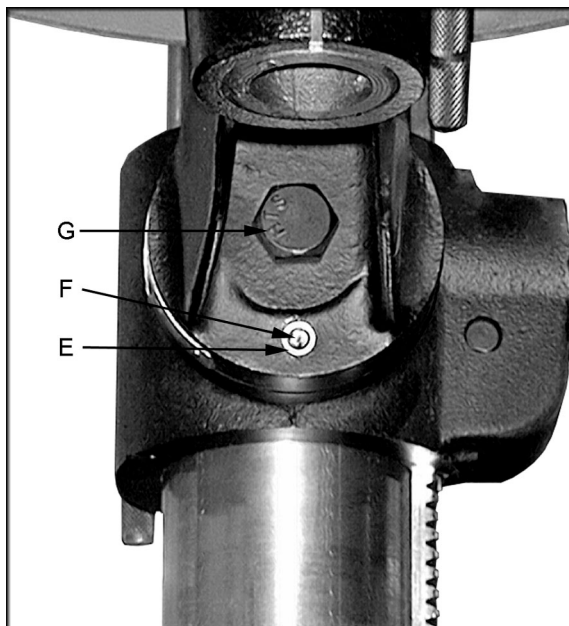

Figure 10
1. Turn nut (E, Figure 10) clockwise to pull out the alignment pin (F, Figure 10).
2. Loosen hex cap bolt (G, Figure 10), and tilt the table to the desired angle.
3. Tighten the hex cap bolt (G, Figure 10).